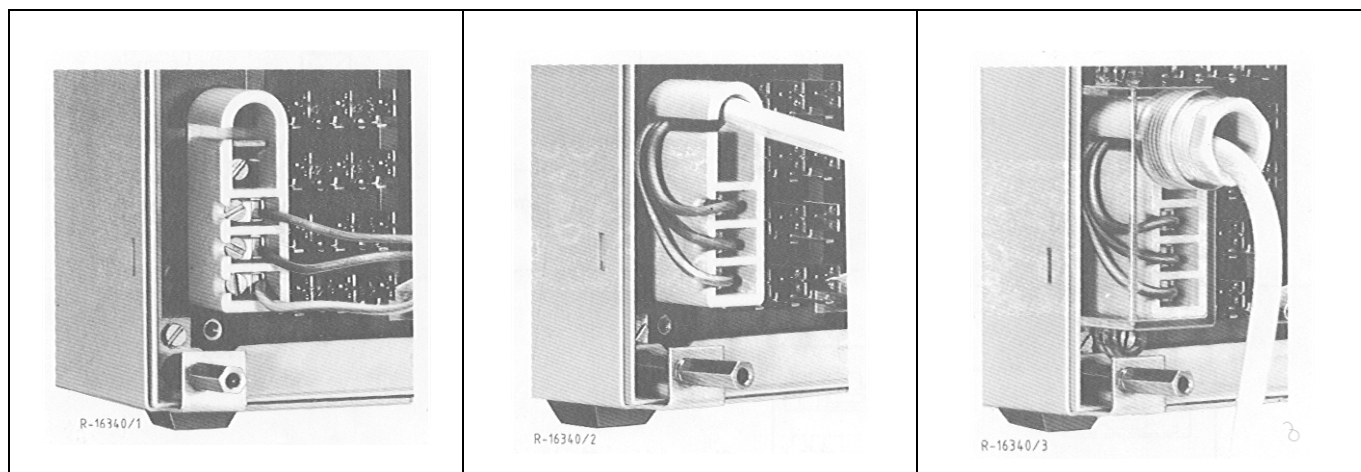

Fig. 3-8 Power supply for the Arucomp EK-Ex (the seal for the transparent cover (degree of protection IP 54) is not depicted here)
- Connect the power supply using the screw terminals (1, 2 and (D)).
- Place the transparent cover (degree of protection IP 54) over the screw terminals (see Fig. 3-8).